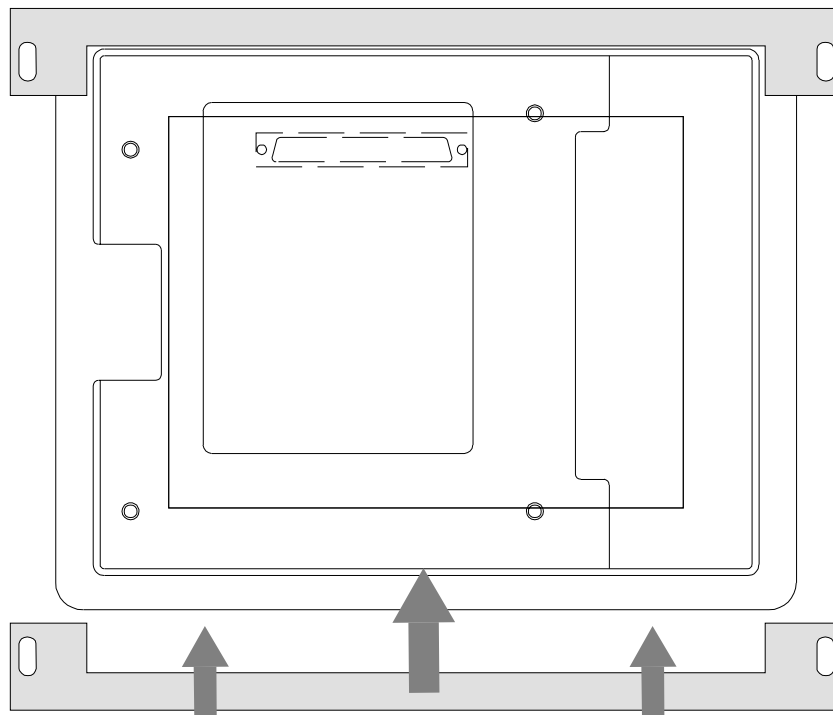

Figure 24, QuickPanel Keypad Mounting Bars
- 3) Remove the mounting bars from the back of the Keypad, as shown in Figure 24.
- 4) Place the QuickPanel in the Keypad window, replace the mounting bars and finger tighten the screws. The mounting bars should be pressed against the top and bottom of the QuickPanel, as shown in Figure 24.
- 5) Align the QuickPanel such that the entire display can be viewed through the Keypad Window, and tighten the mounting bars using a screwdriver, as shown in Figure 24.